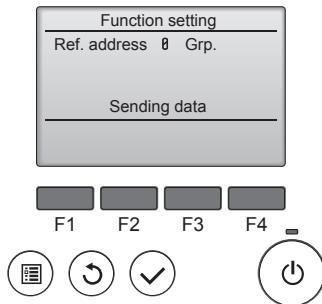

Fig. 6-15
⑤ (Fig. 6-15)
① Going to the function select mode